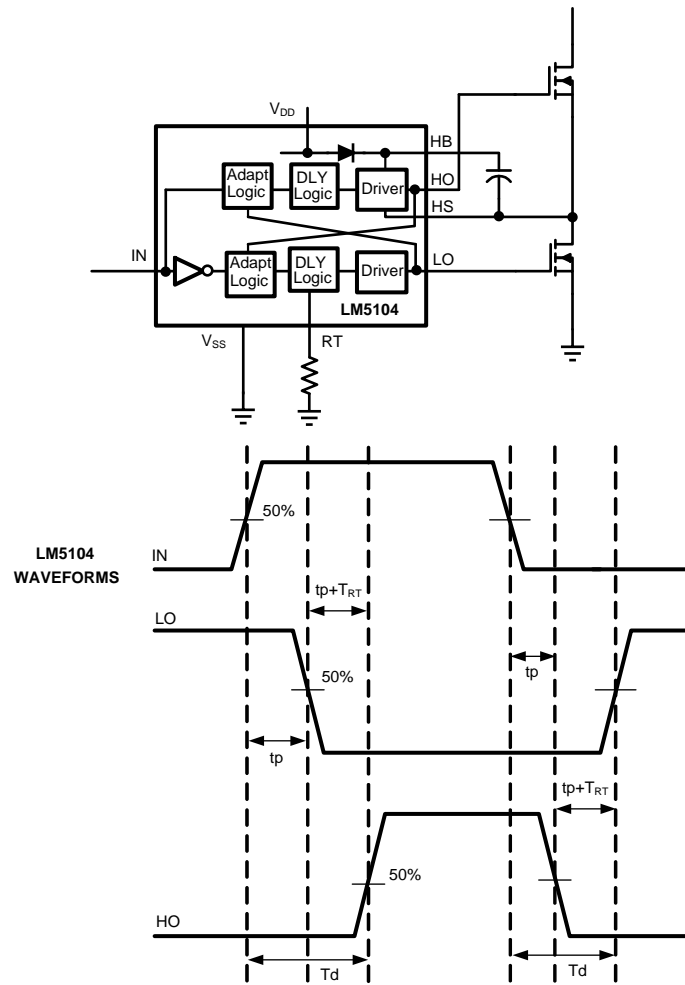

Figure 18. Application Timing Waveforms
LM5104 is a high voltage, high speed dual output driver designed to drive top and bottom MOSFET's connected in synchronous buck or half-bridge configuration, from one externally provided PWM signal. LM5104 features adaptive delay to prevent shoot-through current through top and bottom MOSFETs during switching transitions. Referring to the timing diagram Figure 18, the rising edge of the PWM input (IN) turns off the bottom MOSFET (LO) after a short propagation delay ( $t_p$ ). An adaptive circuit in the LM5104 monitors the bottom gate voltage (LO) and triggers a programmable delay generator when the LO pin falls below an internally set threshold ( $\approx V_{dd}/2$ ). The gate drive of the upper MOSFET (HO) is disabled until the deadtime expires. The upper gate is enabled after the TIMER delay ( $t_p+T_{RT}$ ), and the upper MOSFET turns-on. The additional delay of the timer prevents lower and upper MOSFETs from conducting simultaneously, thereby preventing shoot-through.